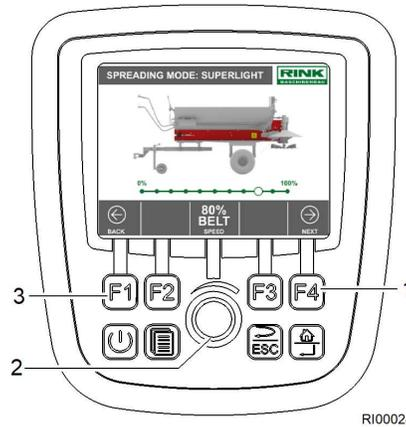

Fig. 41 Set transport speed
1. Turn the rotary control (Fig. 41/2) and set the desired transport speed for the conveyor unit.
3. Press the F4 button (Fig. 41/1). The next menu is called up.
4. Press the F1 button (Fig. 41/3). The previous control menu is called up.